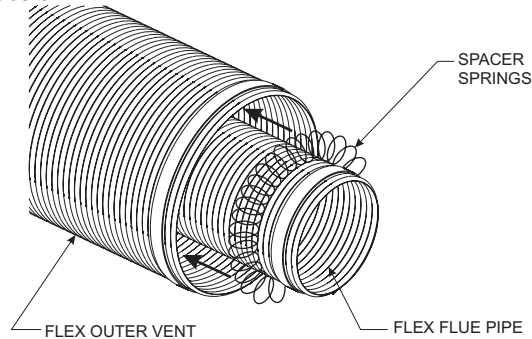
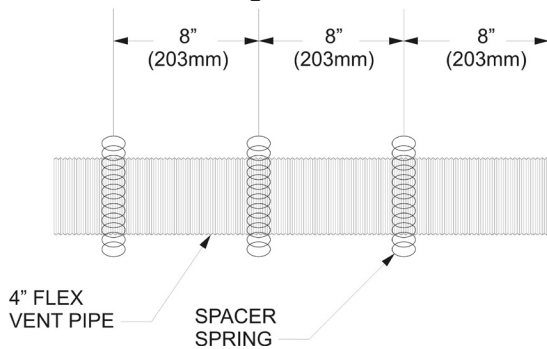

Figure 42
Figure 43
2. Check to see that the vent spacer springs are located around the flue vent at 8" and 12" intervals along its length. **See Figure 42.** If not, stretch the spacer springs to about 15" long and wrap them around the flue, then interlock the ends of each spring about 2". **See Figure 43.** Maintain equal distance between spring spacers.